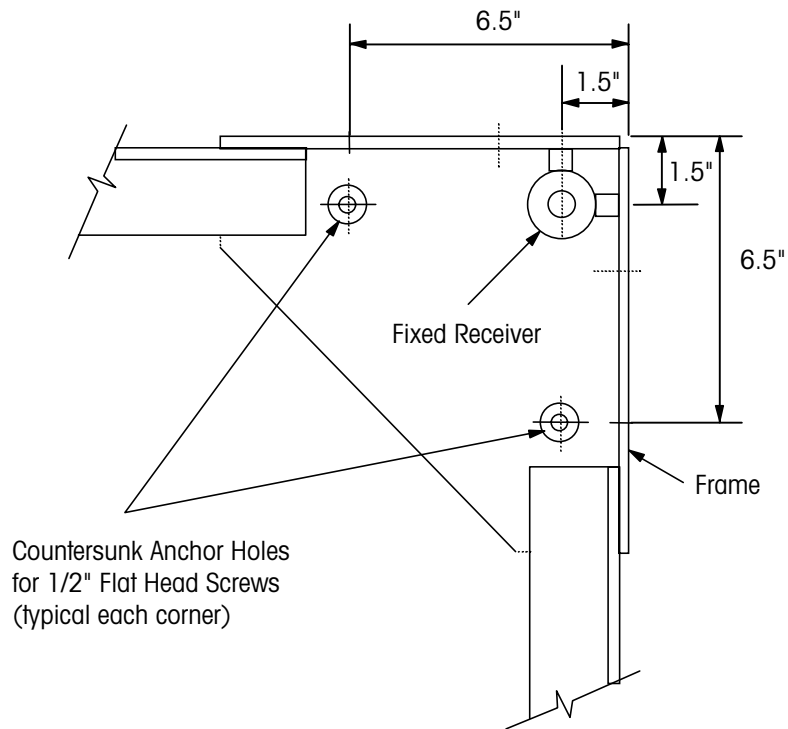

Figure 3-1: Frame Corner Detail (Top View)
1. Locate the anchor holes in all four corners of the frame. There are a total of eight anchor holes, two holes per corner (see Figure 3-1). Scale frames with sides 7 feet long or longer require an additional anchor at the midpoint of each of those sides.